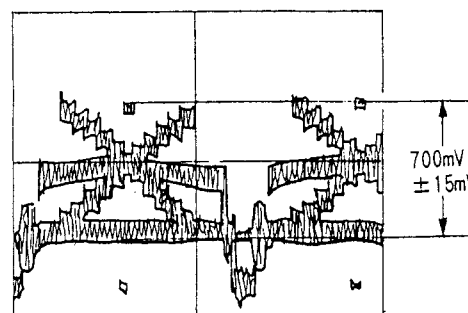

Fig. 4-6
8) AIC Level Adjustment (Figs. 4-6, 4-52)